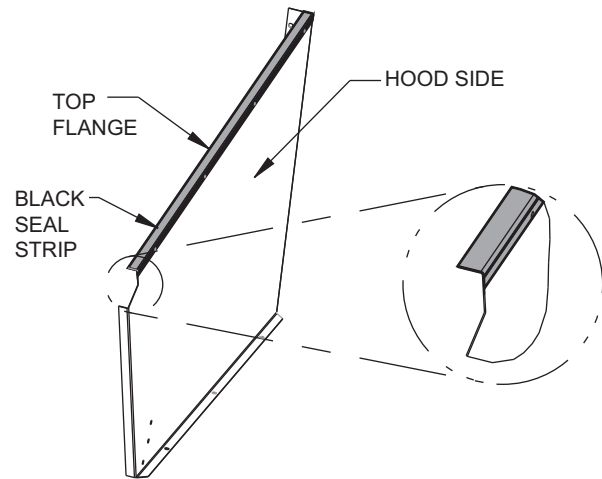

Fig. 28 — Adding Seal Strip to Top of Hood Sides
1. Apply black seal strip (provided) to outside top-edge of hood sides. Wrap seal strip over edge to cover top flange (2 hood sides per hood assembly). Make sure seal strip covers screw holes. See Fig. 28.